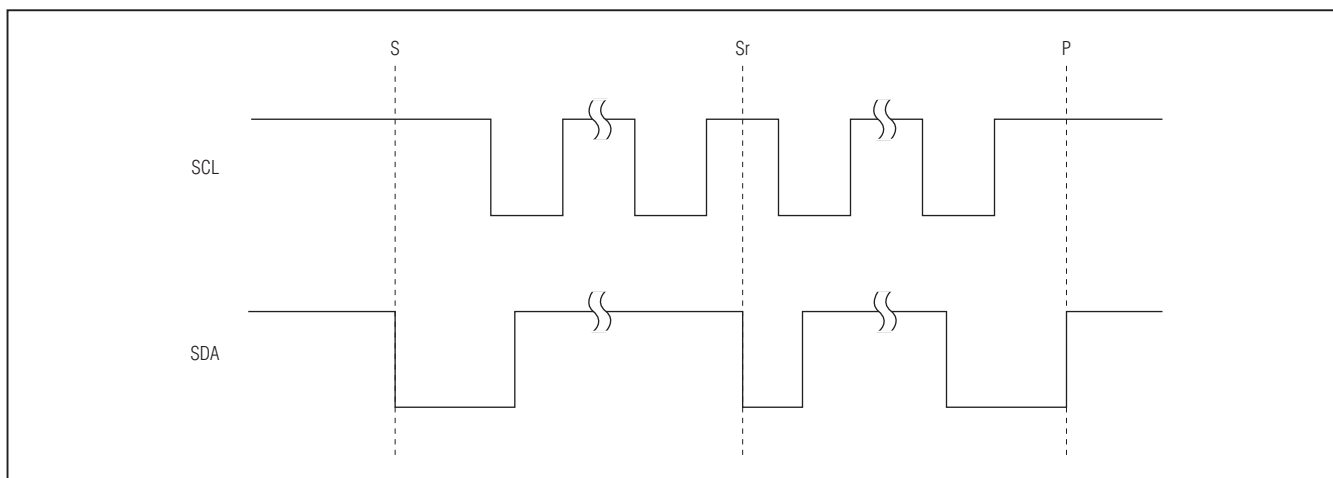

Figure 21. I²C START, STOP, and Repeated START Conditions
issuing a STOP condition (P), to relinquish control of the bus, or a Repeated START condition (Sr) to communicate to another I²C slave. See Figure 21.